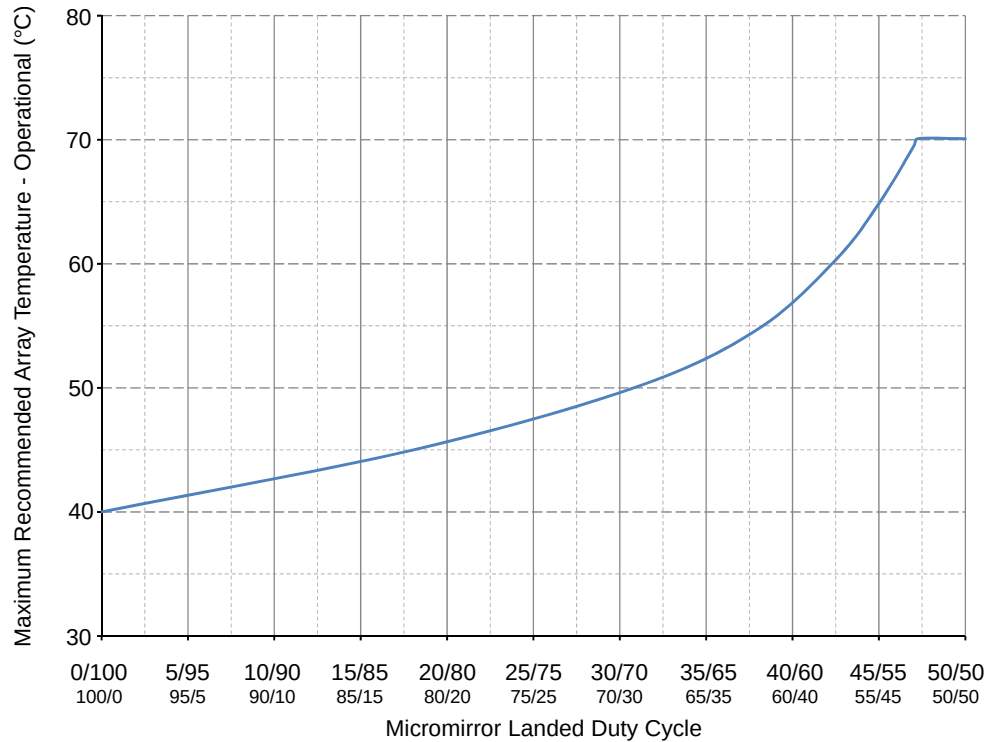

Figure 1. Maximum Recommended Array Temperature - Derating Curve
- (13) Long-term is defined as the usable life of the device.
- (14) Per Figure 1, the maximum operational array temperature should be derated based on the micromirror landed duty cycle that the DMD experiences in the end application. See Micromirror Landed-On/Landed-Off Duty Cycle for a definition of micromirror landed duty cycle.
- (15) Array temperatures beyond those specified as long-term are recommended for short-term conditions only (power-up). Short-term is defined as the cumulative time over the usable life of the device and is less than 500 hours.